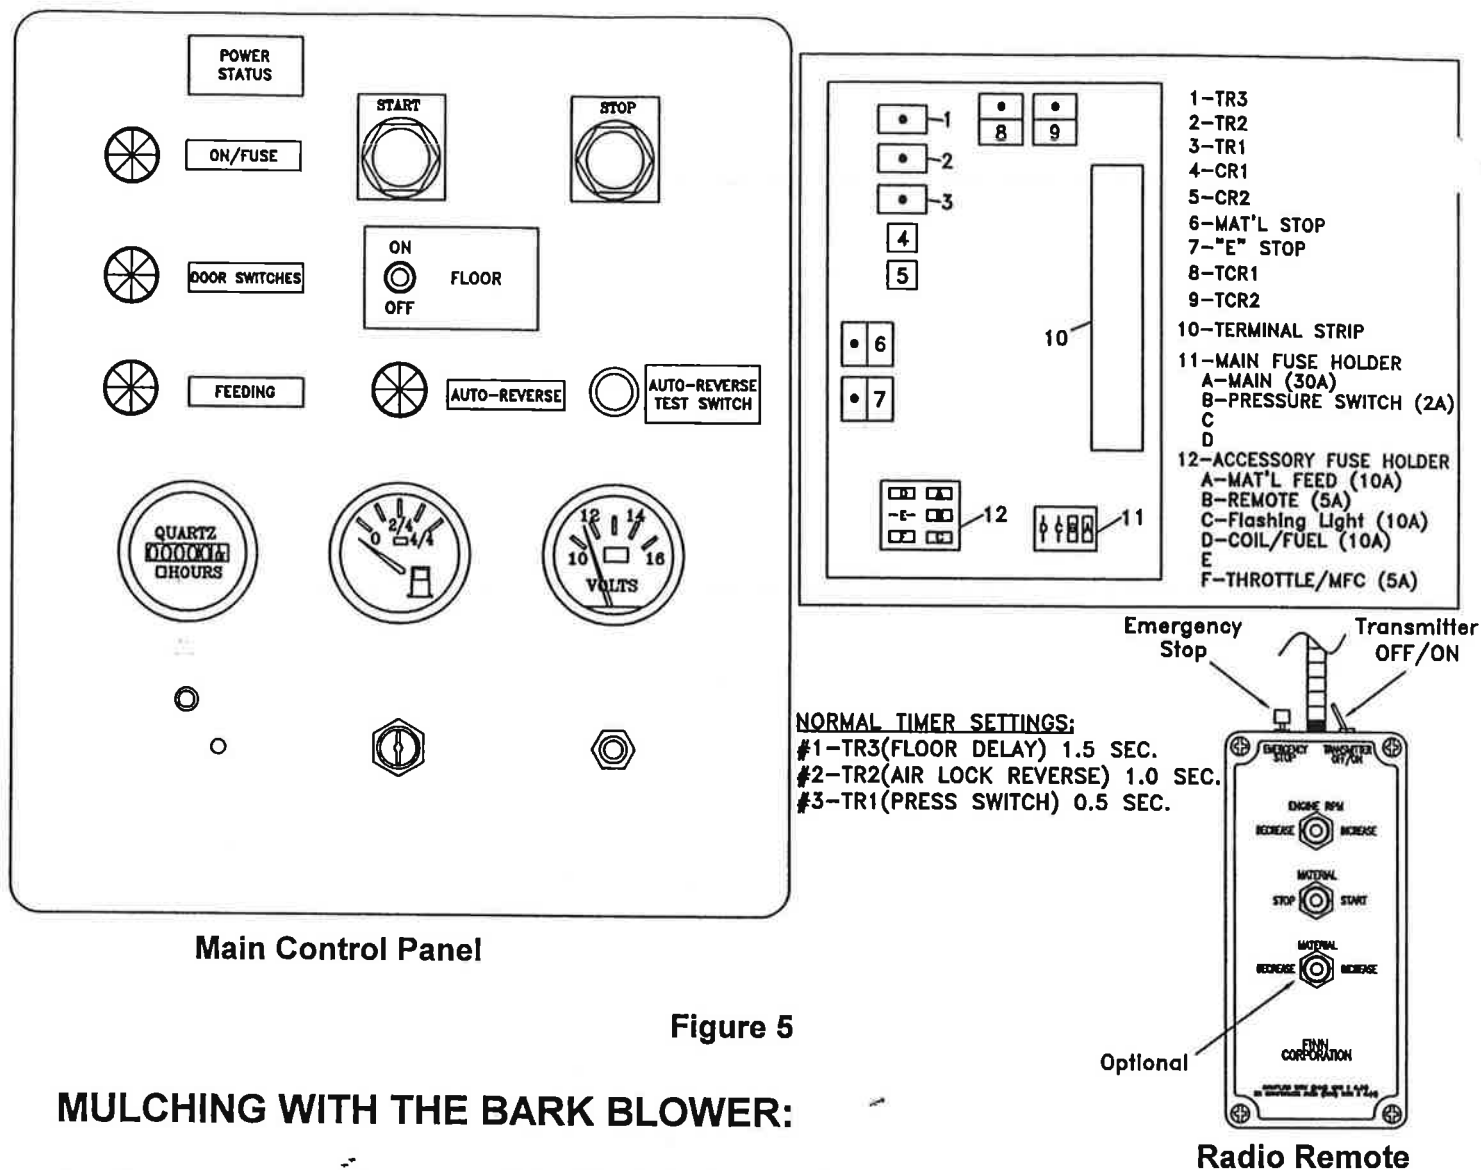

Figure 5
4. Check that the "ON/FUSE" and "DOOR SWITCH" lights are illuminated. If not, check the 10 AMP fuse in the control box (see Figure 5 pg. 18) and verify that the doors are closed at the air lock.
When the "Start" button is pushed, the CR1 and CR2 relays in figure 5 (pg. 18) are energized. This in turn energizes the "forward" solenoid on the solenoid valve, starting the air lock and the drag conveyor, assuming the conveyor toggle switch is "On". As material drops into the top of the rotary air valve, the pressure required to cut the material is monitored by a pressure switch located on the bottom work port of the solenoid control valve (see figure 3 pg. 3). The switch is normally open. It closes when the rotary air valve motor stalls, causing high pressure due to the air valve encountering an object it can not cut. The amount of time the pressure switch is closed is monitored by the relay TR1 in figure 5 (pg. 18). If the switch remains closed for more than 0.5 seconds, TR1 energizes timer relay TR2. TR2 automatically reverses the rotary air valve by energizing the "Reverse" solenoid and de-energizing the "Forward" solenoid, and de-energizes the dump valve, shutting off the drag conveyor. The unit will remain in "Reverse" until TR2 times out, which is approximately 1 second. Timer relay TR3 delays the restart of the drag conveyor allowing the rotary air valve to clear itself. The setting for TR3 should be approximately 1.5 seconds.
Bark Blower with Power Status Lights: (See Figure 5)
When the pressure switch closes due to high pressure, a series of relays is triggered in the electrical control system that automatically reverses the rotary air valve and stops the drag conveyor. The length of time the system remains in reverse is determined by the setting on the timer relay TR2 (see figure 5 pg. 18). This relay is located inside and near the top of the electrical control box labeled "MATERIAL FEED CONTROL". The relay has a digital dial graduated 0-6 seconds, indicating the approximate length of time the reverse cycle will last. Optimum setting is 1 second. A third timer relay, TR3, delays the restart of the drag conveyor to allow the rotary air valve to clear itself of material before restarting of material flow. TR3 is located above TR2 and its optimum setting is 1.5 seconds.